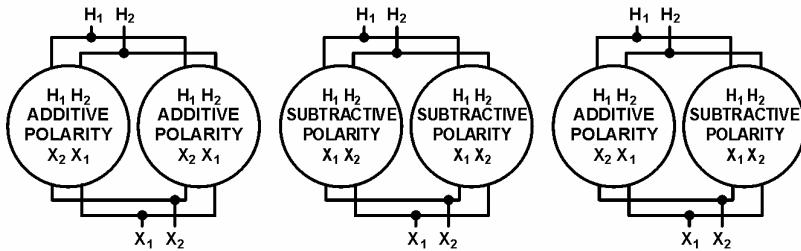

Figure 16 – Single-Phase Paralleling.
1. Any combination of positive and negative polarity transformers can be used. However, in all cases, numerical notations **must be followed** on both primary and secondary connections. That is H_1 connected to H_1 , H_2 connected to H_2 , and X_1 connected to X_1 , X_2 connected to X_2 , X_3 connected to X_3 . Note that each subscript number on a transformer must be connected to the same subscript number on the other transformer as shown in figure 16.
With positive and negative polarity transformers, the location of X_1 and X_2 connections on the tanks will be reversed. Care must be exercised to ensure that terminals are connected, as stated above. See figure 16.